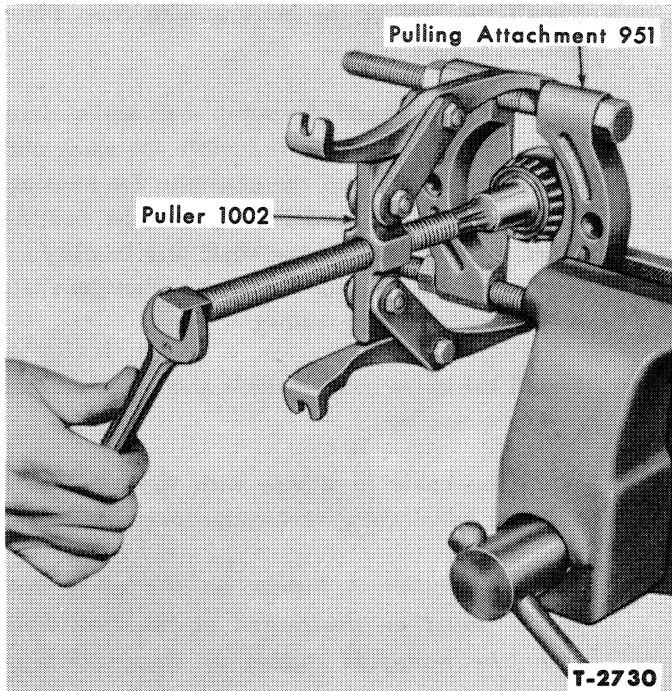

Figure 26—Removing Tapered Roller Bearing from Shaft
2. If the shaft bearing is defective, remove it with a bearing puller as shown in Figure 26.